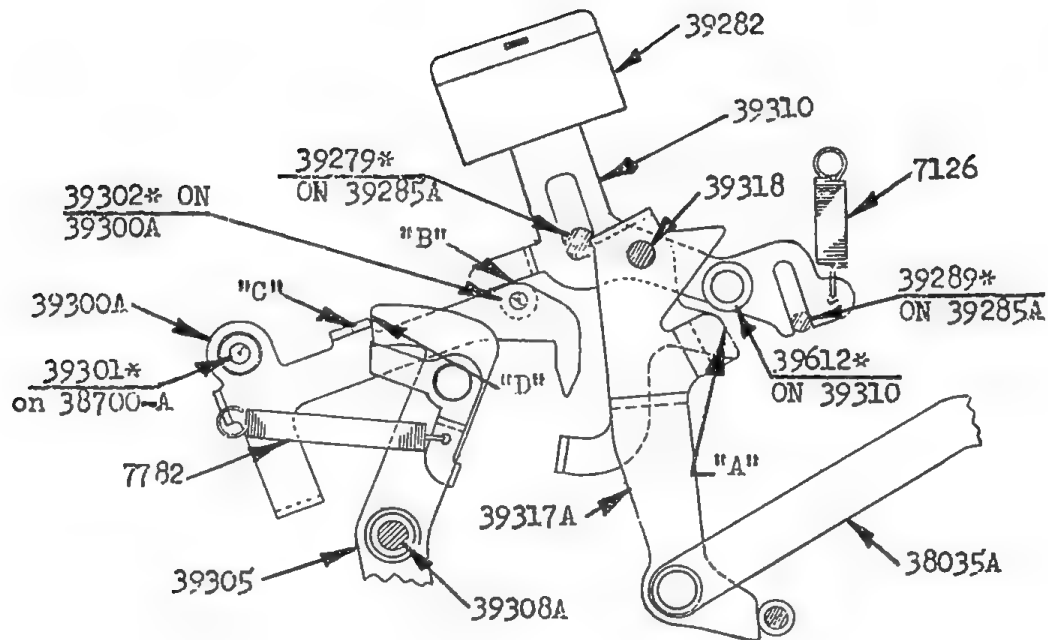

FIG. 24
1. (Fig. 24). Depression of the Subtract Key Stem-39310 causes its Roller-39612* to contact surface "A" on the Reverse Setting Bail-39317A and rocks 39317A clockwise, thus moving the Reverse Setting Bar-38035A forward, which positions 38035A for negative actuation in the standard manner. Upon depression,